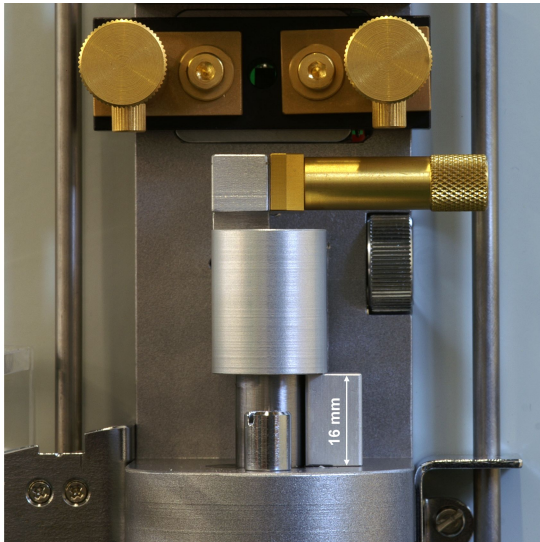
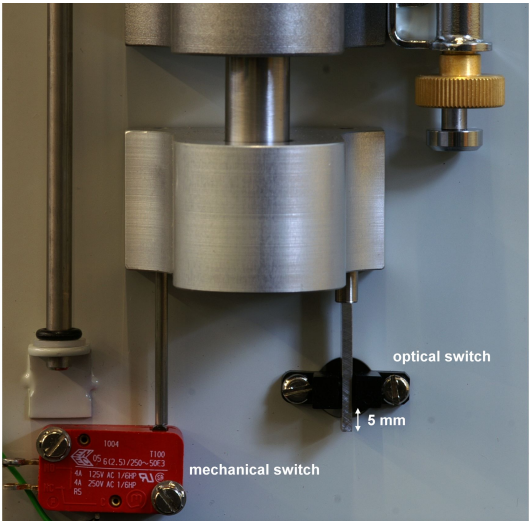
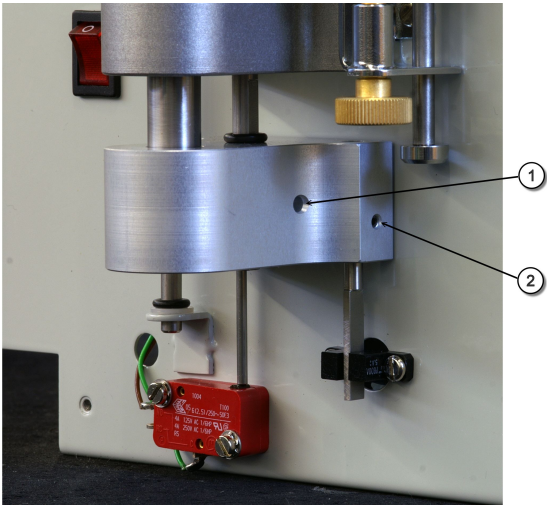
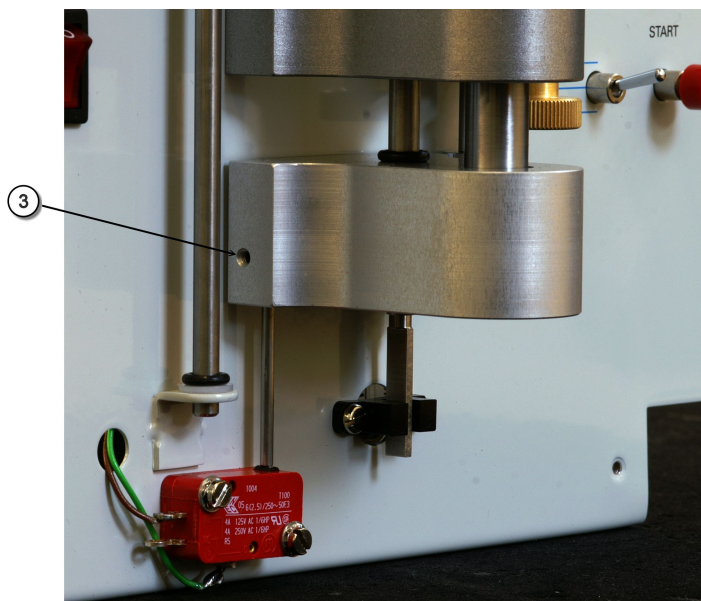

Figure 4.1: Pulling Mechanism (upper part)
Figure 4.2: Pulling Mechanism (lower part)
Figure 4.3: Adjustment screws 1 and 2
Figure 4.4: Adjustment screw 3
3. Adjust the vertical movement of the pulling mechanism to 16 mm by means of screw 1 (figure 4.3). Please use the 16 mm adjustment block for that purpose (figure 4.1). Move the lower part of the pulling mechanism to its top most position and fix screw 1 again.
4. Adjust the right gear bar according figure 4.2 by using screw 2 (figure 4.3). (The pulling mechanism must be at lowest position.)
5. By means of screw 3 (figure 4.4) adjust the left gear bar in such a way that it will operate the limit switch as per (figure 4.2). (The pulling mechanism is at lowest position).